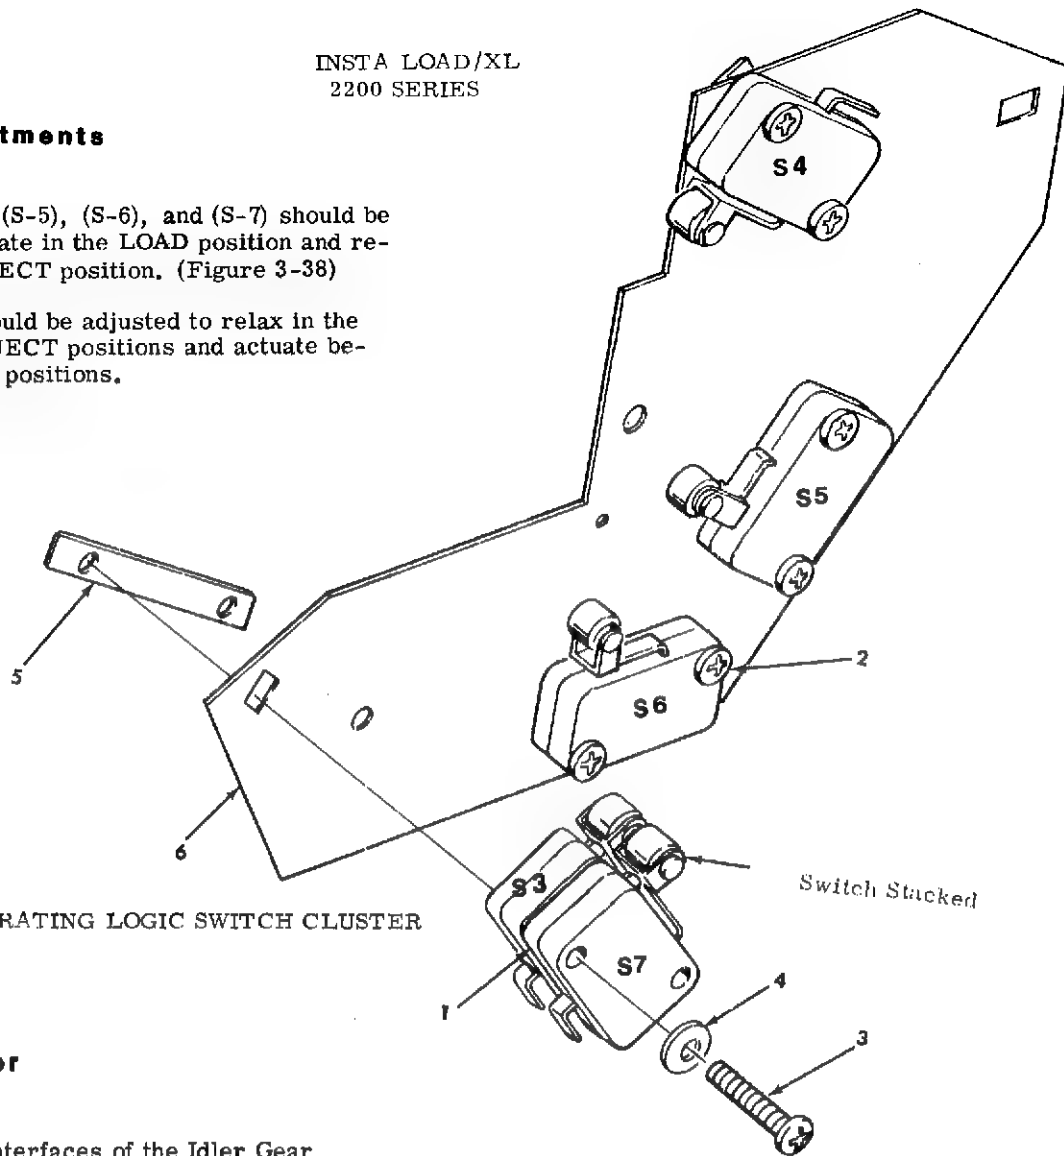

Figure 3-38. OPERATING LOGIC SWITCH CLUSTER
1. Switches (S-3), (S-5), (S-6), and (S-7) should be adjusted to actuate in the LOAD position and relax in the PROJECT position. (Figure 3-38)